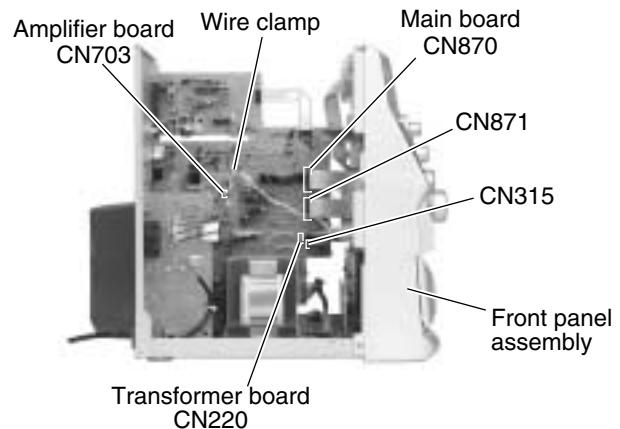

Fig.8
■Removing the front panel assembly (See Fig.8 to 11)